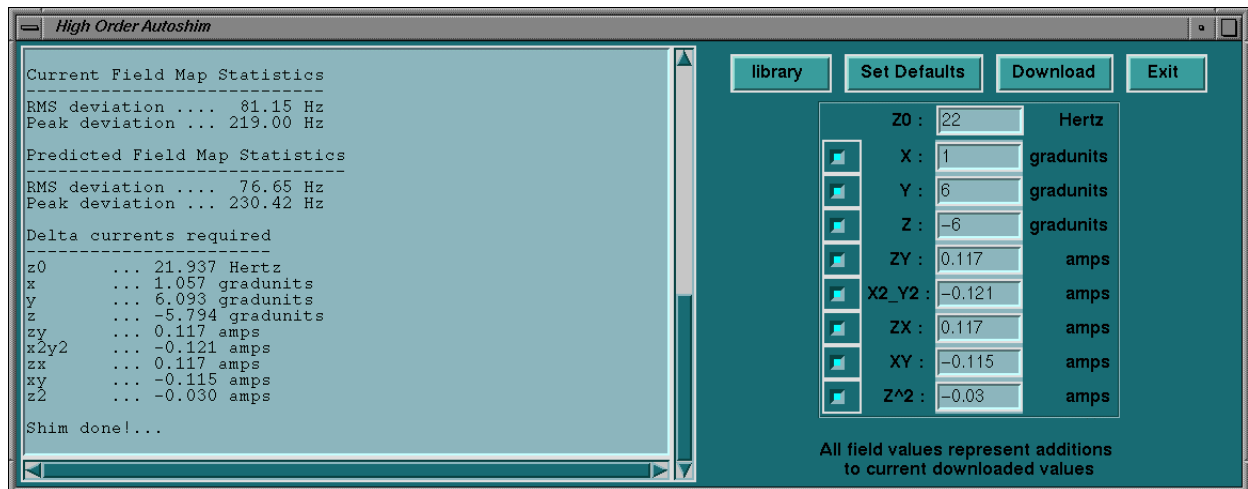

Figure 3: Advanced screen
If there seems to be little to no improvement for the very first pass, select the Advanced button to open the Advanced screen and make sure that all shim coils are enabled for use on the right hand side. This will be evident by see that the buttons next to each coil is indented (selected), if not, then select them all and calculate shim again. They will stay enabled until someone manually disables them. See Figure 3 for the Advanced screen and coil buttons.
2. The Advanced screen as seen in figure 3 appears.
1. To save a shim-set of data, recall a previously saved set, or manually adjust a previously saved set, click on **Library** in the Advanced screen, as seen in figure 3.